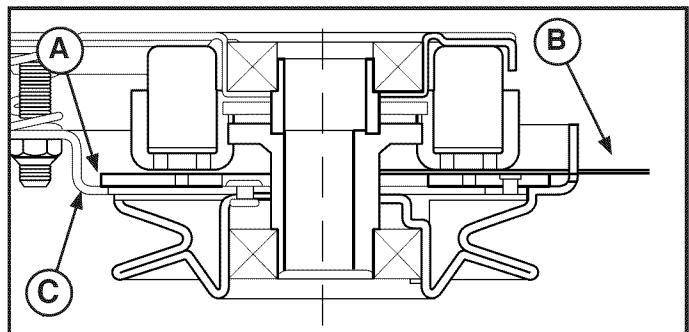

Figure 27
3. Insert a 0.012 - 0.015 in. (0,30 - 0,38 mm) feeler gauge (**C**) through each window, positioning the gauge between the rotor face and the armature face as shown in Figure 27.